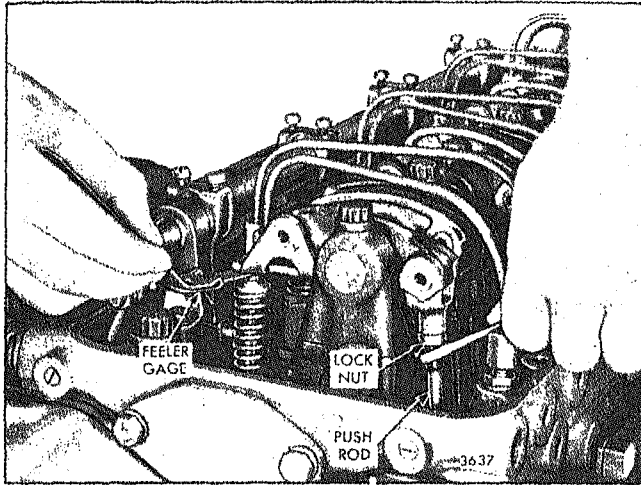

Fig. 2 - Adjusting Valve Clearance (Four-Valve Cylinder Head)
5. Place a .027" feeler gage, J 9708, between the end of one valve stem and the rocker arm bridge (Fig. 2). Adjust the push rod to obtain a smooth pull on the feeler gage.